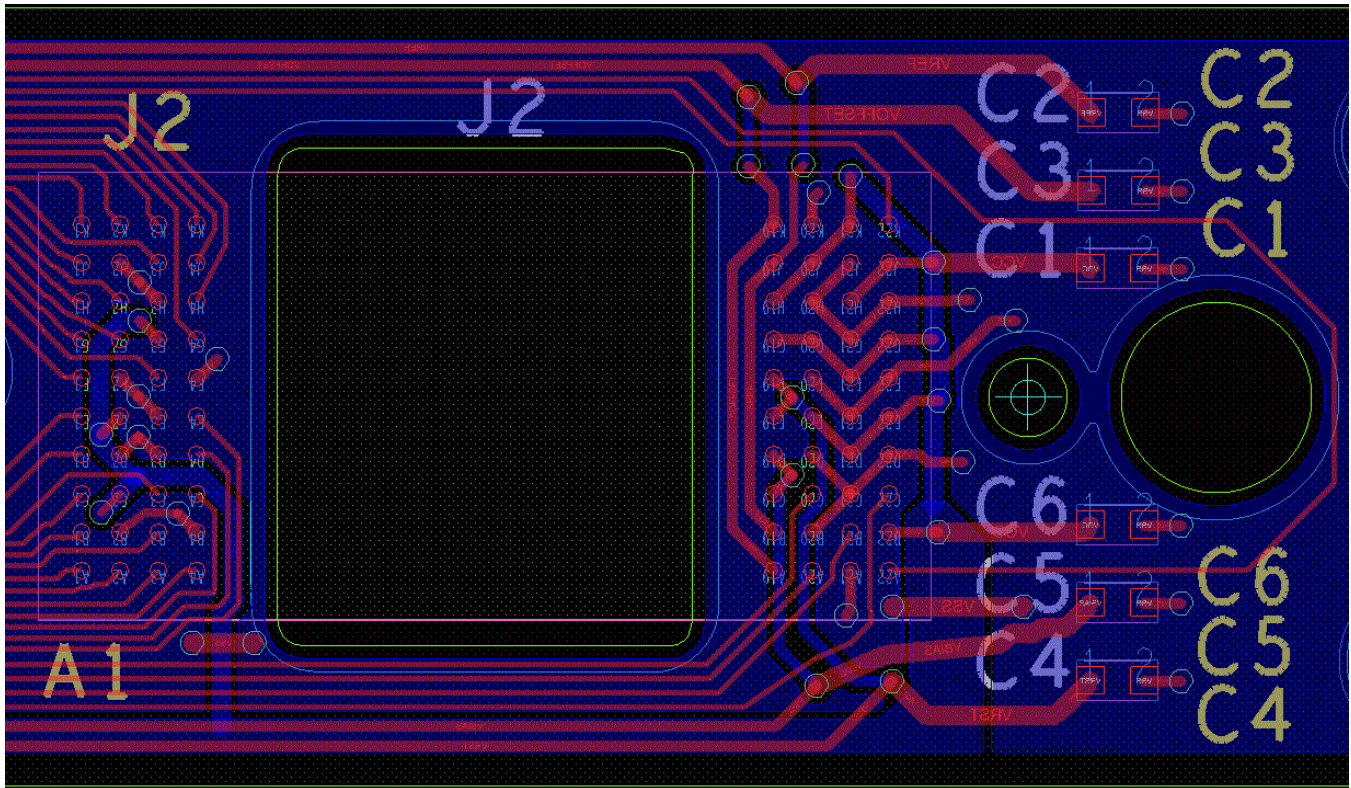

Figure 13. Power Supply Connections
- Minimum of 100-nF decoupling capacitor close to VBIAS. Capacitor C5 in Figure 13.
- Minimum of 100-nF decoupling capacitor close to VRST. Capacitor C4 in Figure 13.
- Minimum of 100-nF decoupling capacitor close to VOFS. Capacitor C3 in Figure 13.
- Minimum of 100-nF decoupling capacitor close to both groups of VCC pins, for a total of 200-nF for VCC. Capacitor C1/C6 in Figure 13.
- Minimum of 100-nF decoupling capacitor close to VREF. Capacitor C2 in Figure 13.